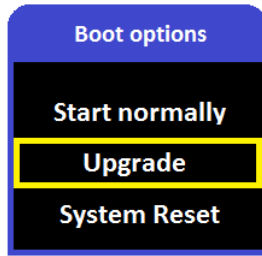

Figure 2: Boot options window
2. On Emsis 80, push and hold the **down** arrow (on Emsis 3.5", push and hold the **up** arrow) and turn Emsis ON. A window similar to Figure 2 appears.